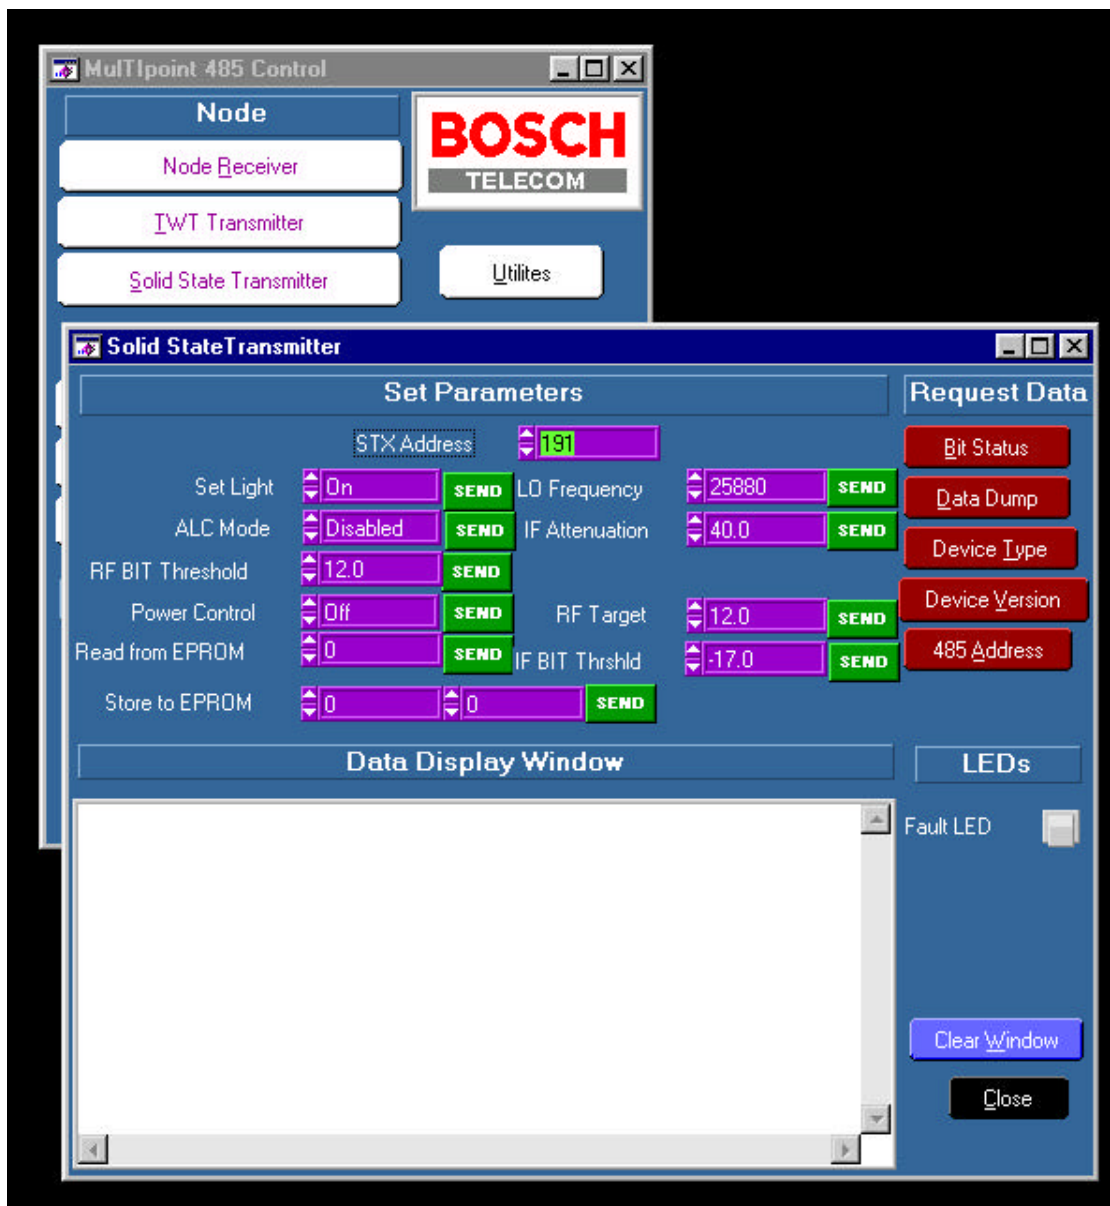

Figure 8-3 Solid State Transmitter Parameter Selection Window
4.2.2 On the Parameters Selection Window (refer to Figure 8-3), update the parameters per Table 8-1: